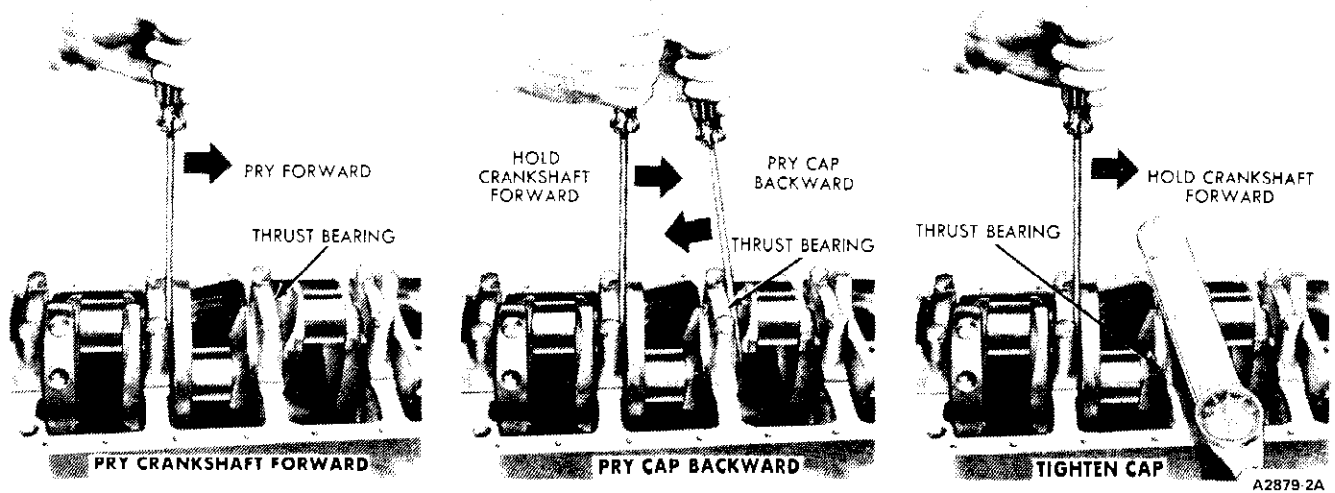

FIG. 34 Aligning Thrust Bearing
Lubricate the journal with engine oil and install the thrust bearing cap with the bolts finger tight. Pry the crankshaft forward against the thrust surface of the upper half of the bearing. (See Fig. 34.) Hold the crankshaft cap to the rear. This will align the thrust surfaces of both halves of the bearing. Retain the forward pressure on the crankshaft. Torque the cap bolts to specification.
15. Pry the crankshaft forward against the thrust surface of the upper half of the bearing (Fig. 34).